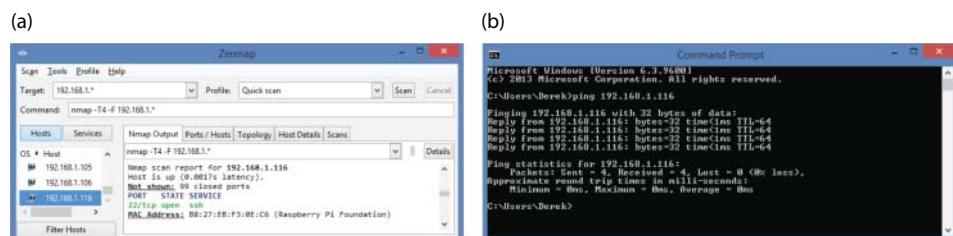

Figure 2-1: (a) Zenmap scan of the network to locate the RPi; (b) A ping test from the desktop machine
- **With a port-scanning tool:** Use a tool like *nmap* under Linux or the *Zenmap* GUI version, available for Windows (see tiny.cc/erpi203). Issue the command `nmap -T4 -F 192.168.1.*` to scan for devices on a subnet. You are searching for an entry that has an open port 22 for SSH. It should identify itself with the Raspberry Pi Foundation (see Figure 2-1(a)) as a result of the range of MAC addresses allocated to the Foundation. You can then ping test the network connection (see Figure 2-1(b)).